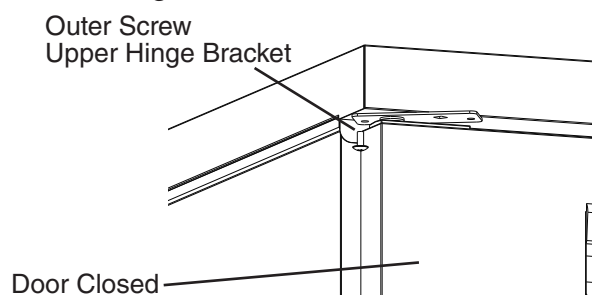

**Fig. 10**
- 10) Remove the filler cap and nylon bearing from the bottom of the door. See Fig. 10. Reinstall on the opposite side.